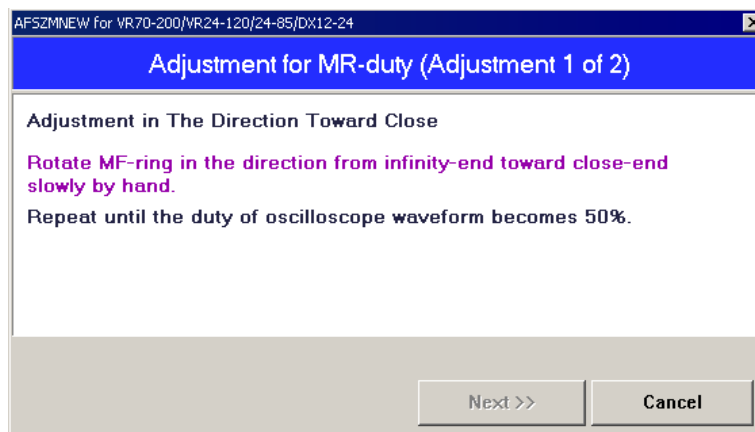

Fig.3
- ④ Following the instructions on the screen, rotate the MF ring in the direction from "Infinity-end" toward "Close-end" slowly by hand. (Fig.3)